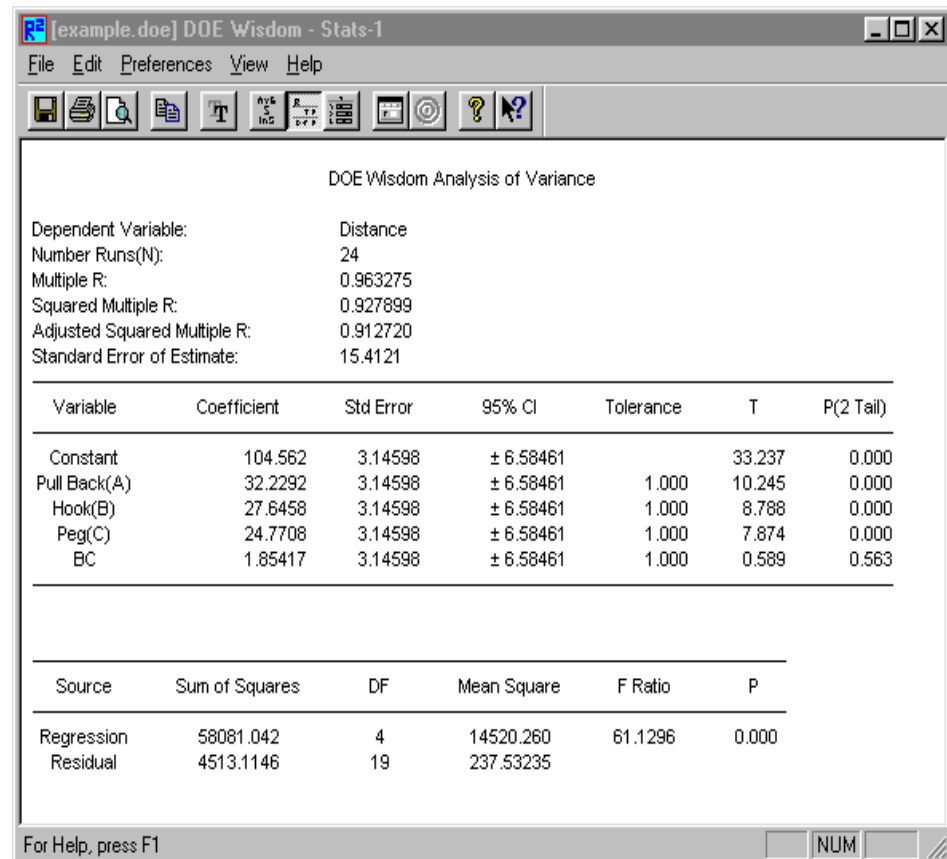

Figure 5-7
When Analysis of Variance is selected, a screen similar to the one shown in Figure 5-7 will appear. If there are several factors/interactions and not all of them fit in the area, simply use the scroll bars to move to different sections of the window.
Squared Multiple R	The coefficient of determination ( $R^2$ ) for multiple regression. In Figure 5-7 the $R^2$ value is 0.927899. This tells us that 92.8% of the variance in the data (about the mean) was due to the fact that the response varied for different levels of the factors. Closer to 1 is typically better.
Standard Error of Estimate	The standard error of the estimate is the square root of the residual mean square (the mean square error). It is a measure of the unexplained variability in the dependent variable. The Standard Error of Estimate in Figure 5-7 is 15.4121. Using the empirical percentages for a normal distribution, 68.26% of any further runs should fall inside of the predicted value $\pm 15.4121$ .
Using the standard error we can precisely state the number of standard deviation units each coefficient is from zero on the t distribution. In Figure 5-7, the coefficient for Hook is 27.6458: or 8.788 standard deviation units to the right of zero on the t
**T** Using the standard error we can precisely state the number of standard deviation units each coefficient is from zero on the t distribution. In Figure 5-7, the coefficient for Hook is 27.6458:
or 8.788 standard deviation units to the right of zero on the t distribution. This is the T value for Hook found in the ANOVA table in Figure 5-7.
For Figure 5-7: